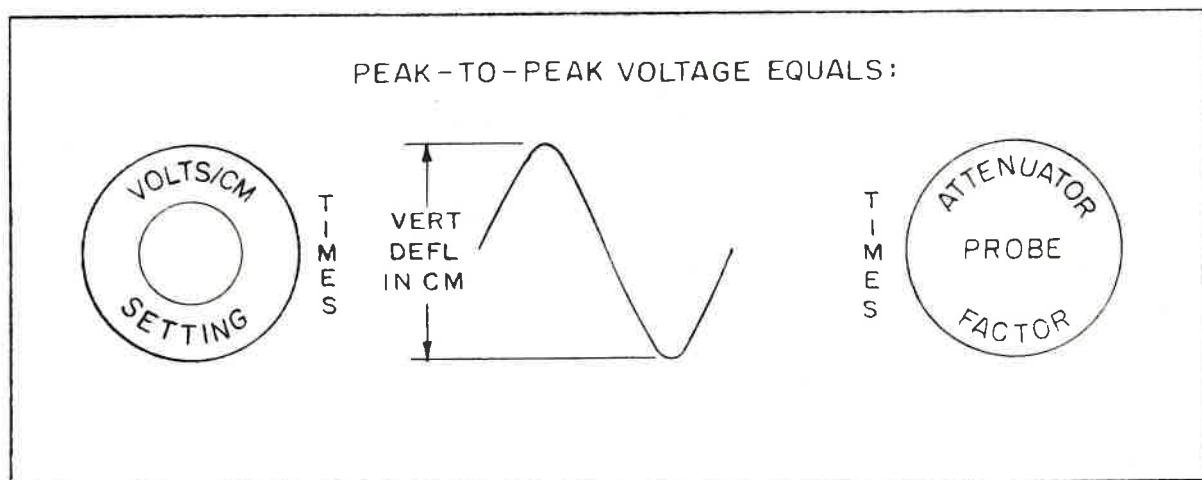

Figure 3-1. Peak-to-Peak Voltage Measurement
1. Using the calibrator scale, measure the vertical deflection in centimeters from the positive peak to the negative peak of the waveform. See Figure 3-1.